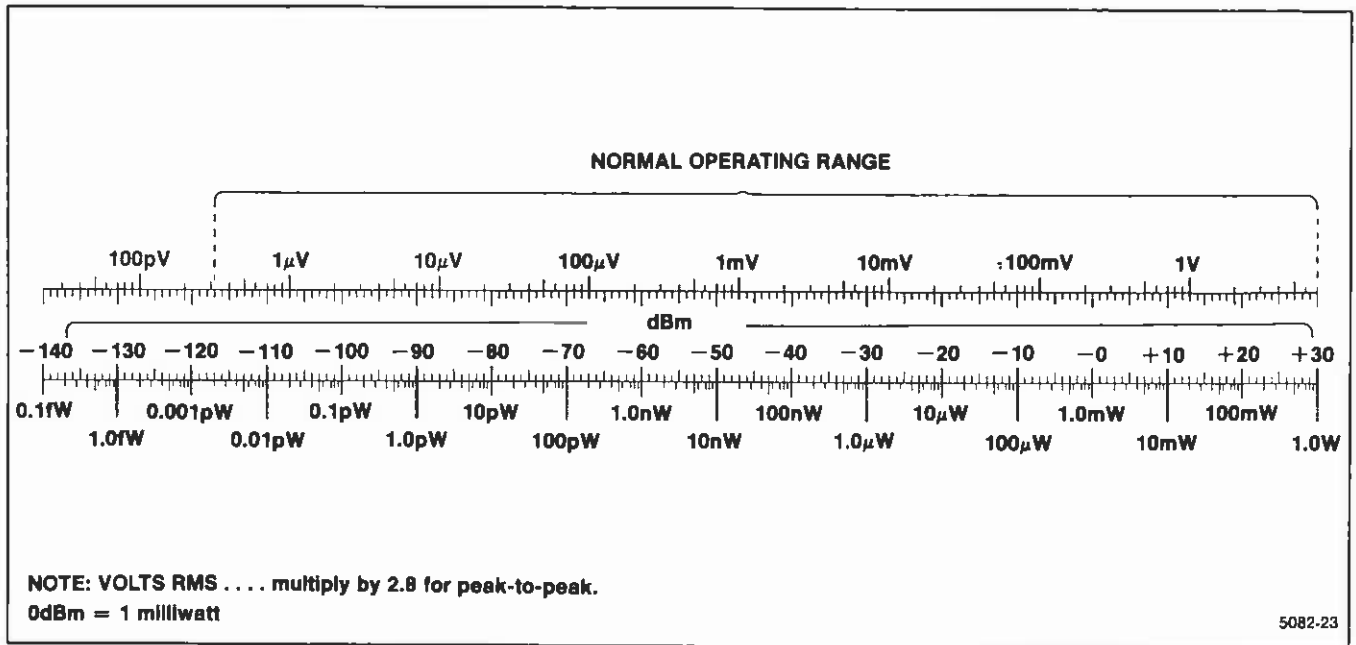

Figure 6-3. Volts-dBm-Watts conversion chart for 50 Ω Impedance.
**Amplitude Conversion** — A conversion chart, as shown in Figure 6-3, can be used to convert input signal levels of voltage or power to dBm, dBV, dBmV, and dBμV.